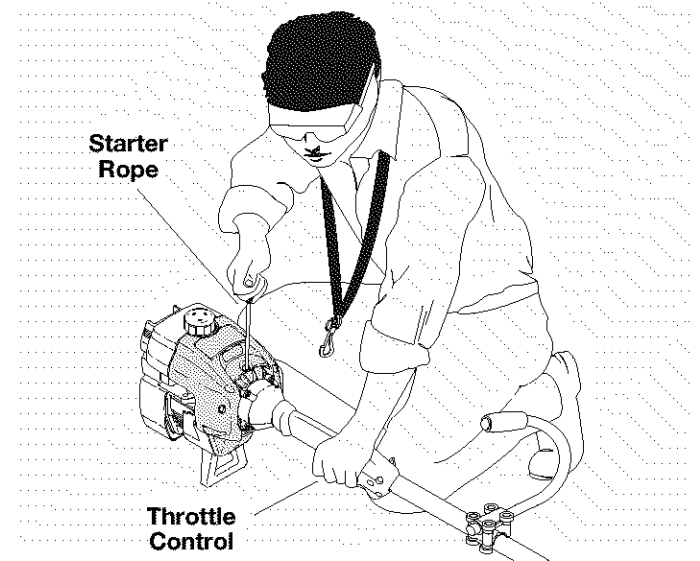

Fig. 17
NOTE: Mix gas with oil (40:1 ratio). See **Oil and Fuel Mixing Instructions** in the **Operation** section. Fill your unit with oil and gas mixture and set it on the ground to start (Fig. 17).
4. Squeeze throttle control and pull starter rope (Fig. 17) until engine attempts to start (5 pulls maximum).
6. Pull starter rope (Fig. 17) until engine starts (3 pulls maximum).